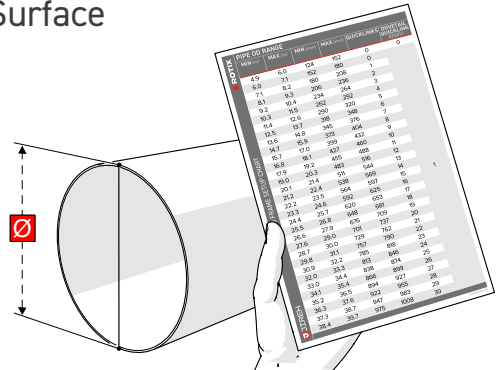

Fig. 104 - Refer to setup chart
1. Determine the diameter of the pipe or tube to be scanned. The **ROTIX** kit and this manual include two setup charts indicating the number of links required based on the pipe diameter or tubing (Fig. 104). Refer to the appropriate chart based on the number of probes to be used when scanning.